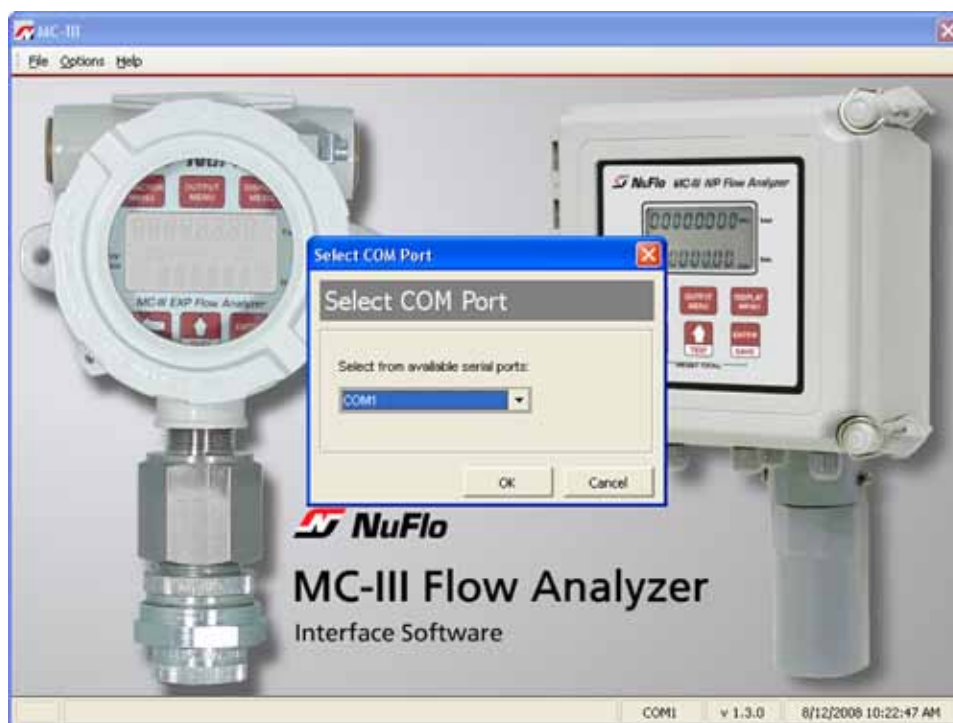

Figure 4.2—Select COM Port window
The Help menu, accessible from the task bar at the top of the Welcome screen (Figure 4.2, page 38), provides access to documentation designed to assist the user in installing, configuring, and operating the MC-III Panel Mount flow analyzer. This documentation includes:
1. Click on the NuFlo MC-III icon on the desktop, or select Start>Programs>NuFlo>MC-III>MC-III. The Welcome screen (Figure 4.2) will appear and a Select COM Port window will prompt the user to select a communications port be used for connecting with the MC-III Panel Mount (Figure 4.2).